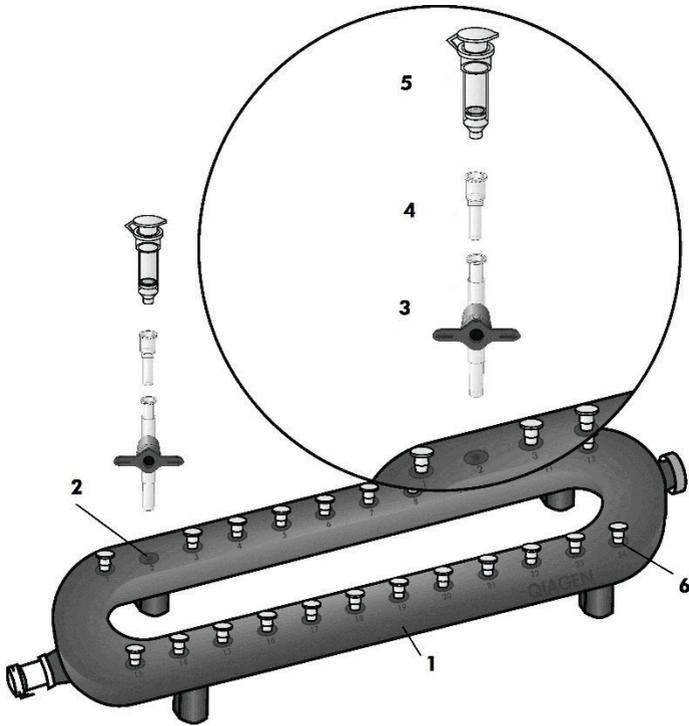

Figure 5. Setting up the QIAvac 24 Plus with QIAamp Mini columns using VacValves and VacConnectors.
5. If necessary, insert an Extension Tube into each QIAamp Mini column (see Figure 5).